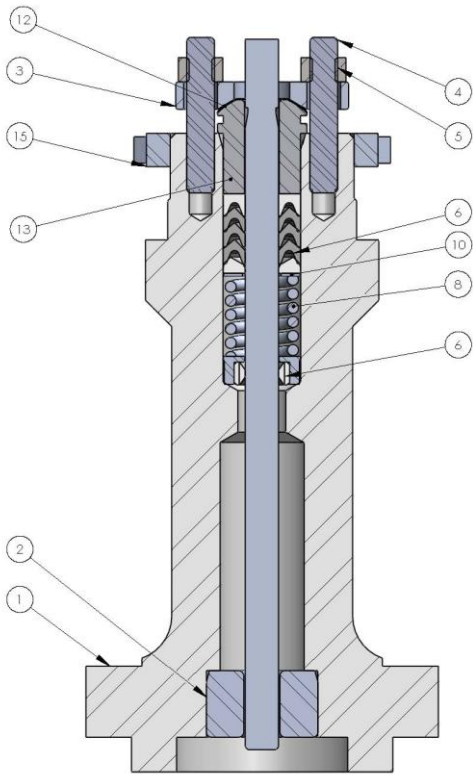

Figure 12. Extension Bonnet
7. Remove the bonnet gasket (key 10, figure 12) and cover the opening in the valve to protect the gasket surface and to prevent foreign material from getting into the valve body cavity.
10. Remove the covering protecting the valve cavity and install a new bonnet gasket (key 10, figure 12), making sure the gasket seating surfaces are clean and smooth. Then slide the bonnet over the stem and onto the stud bolts (key 15, figure 12), or onto the valve cavity if cap screws (not shown) are used instead.
Using proper tightening procedures in step 11 compresses the spiral wound gasket (key 12, figure 13) enough to both load and seal the seat ring gasket (key 13, figure 12). The tightening procedures also compresses the outer edge of the bonnet gasket (key 10, figure 12) enough to seal the body-to-bonnet joint.
Key numbers referenced in the following steps are found in figure 12, unless otherwise indicated.
With some valve plug sizes and configurations, the seat ring retainer and bushing assembly (keys 3 and 26, figures 12 and 13) will come out of the valve body with the valve plug and stem assembly, and in other valve plug sizes and configurations, the valve plug or tip will slide through the seat ring retainer and bushing assembly, leaving the retainer and bushing assembly in the valve body.
With metal-seat constructions, seating surfaces of the valve plug and seat ring (key 2, figure 12) can be lapped for improved shutoff. (Deep nicks should be machined out rather than ground out.) Use a good quality lapping compound of a mixture of 280 to 600-grit. Apply the compound to the bottom of the valve plug.
The following procedure assumes that all the trim and associated gaskets were removed from the valve body. If these parts were not all removed, start the assembly procedure at the appropriate step. Key numbers referenced in the following steps are found in figure 12, unless otherwise indicated.